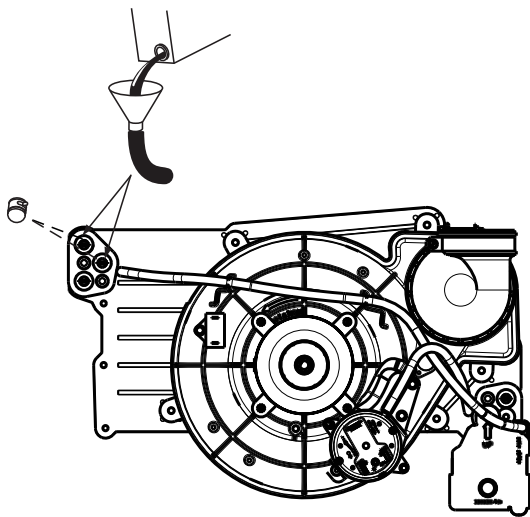

Fig. 62 – Priming Condensate Trap
1. Remove upper and middle collector box drain plugs opposite of the condensate trap. See Fig. 62.
2. Connect field-supplied 5/8-in. (16 mm) ID tube with attached funnel to upper collector box drain connection, see Fig. 62.